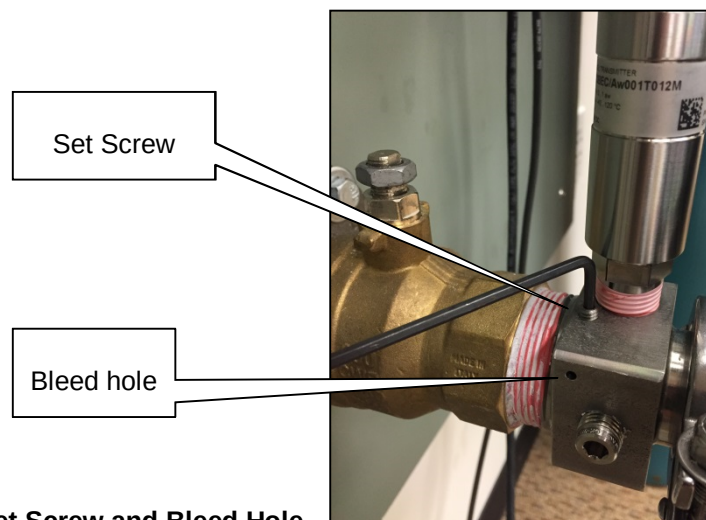

Figure 8: Set Screw and Bleed Hole
- 8) Place a container under the uni-tee. Partially open the transformer valve. Using a 1/8" Allen key, slowly loosen the set-screw until oil exits the bleed hole (**Fig 8**), then tighten the set screw and close the transformer valve.